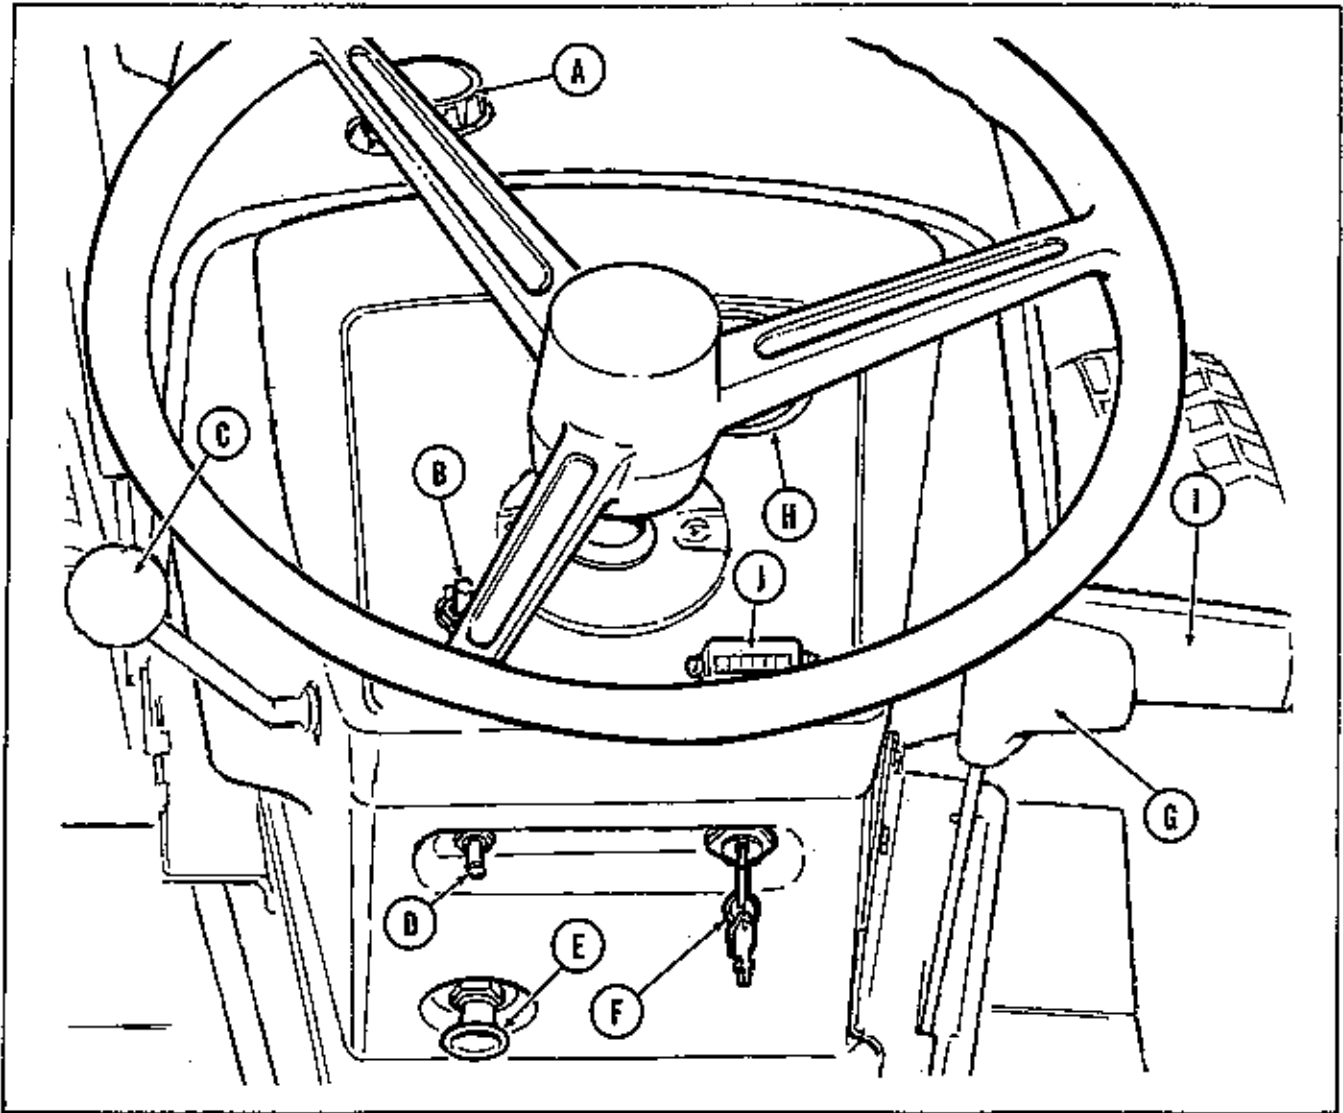

Figure 1. Tractor instrument panel as seen from the operators position on tractor seat.
Picture yourself seated on your tractor. Before starting the engine, lets learn how to understand and use the instruments and controls. The paragraphs referring to the instruments and controls are illustrated in figures 1 through 4.
**IGNITION SWITCH:** (Figure 1, item F) To actuate the ignition switch first insert the ignition key as shown. When the key is turned clockwise to the first position, the ignition is ON. In the ON position the lights, hourmeter, etc. will operate. Turn the key clockwise past the ON position to the START position to actuate the starter. **THE TRANSMISSION SHIFT LEVER MUST BE IN THE NEUTRAL POSITION AND THE POWER TAKE OFF CLUTCH CONTROL LEVER(S) MUST BE IN THE DISENGAGED POSITION BEFORE THE STARTER WILL ACTUATE.** Release the
**CHOKE CONTROL KNOB:** (Figure 1, item E) The choke control knob may be pulled out to increase the amount of fuel entering the engine for starting and cold weather warmup. When starting a cold engine in cold weather pull the choke all the way out. Some choke may be required to start the engine when the air temperature is above 70 degrees F or while the engine is still warm from being recently run. After the engine has started, push the choke in slowly. In cold weather it may be necessary to leave the choke pulled out slightly for three or four minutes while the engine warms up. **NEVER OPERATE THE ENGINE WITH THE CHOKE OUT AFTER IT HAS HAD SUFFICIENT TIME TO**
**AMMETER:** The dial pointer will move right to the "Charging" position when energy is being added to the battery and left to the "Discharge" position when energy is being drawn from the battery. The pointer will normally fluctuate to either side of the dial center. (Figure 1, item H)
**HOURMETER: (OPTIONAL)** (Figure 1, item J)
**FUEL GAUGE AND FILLER CAP:** (Figure 1, item A)
**LIGHT SWITCH: (OPTIONAL)** (Figure 1, item D)
**POWER LIFT SWITCH:** (Figure 1, item B)
**CLUTCH AND BRAKE PEDAL:** (Figure 1, item I)
be applied to stop the tractor. The clutch-brake pedal may be depressed for shifting transmission gears, but it is not necessary if the shuttle drive control lever (Figure 1, item G) is in the neutral position.
**SHUTTLE DRIVE CONTROL LEVER** (Figure 1, item G)
Although the tractor may be shifted into or out of any gear by depressing the clutch-brake pedal, it may be shifted more rapidly by placing the shuttling control lever in the center **NEUTRAL** position as shown in figure 1. The brake which is automatically applied when this lever is in neutral, stops "spinning" of the transmission input shaft to facilitate shifting.
**SPEED CONTROL LEVER:** (Figure 1, item C)